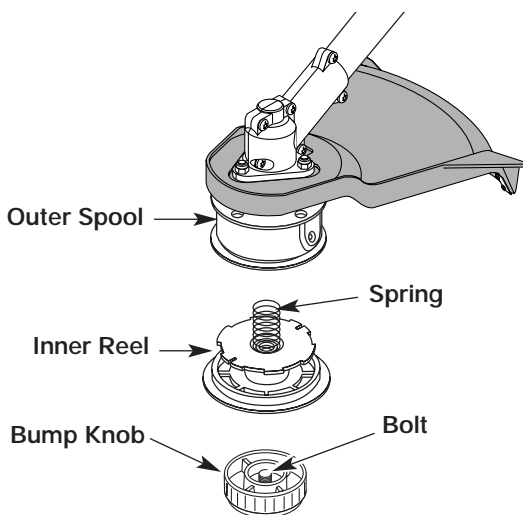

Fig. 12
1. Hold the outer spool with one hand and unscrew the Bump Knob clockwise (Fig. 12). Inspect the bolt inside the bump knob to make sure it moves freely. Replace the bump knob if damaged.
2. Remove the inner reel from the outer spool (Fig. 12).
3. Remove spring from the inner reel (Fig. 12).
1. Hold the outer spool with one hand and unscrew the bump knob clockwise (Fig. 12). Inspect the bolt inside the bump knob to make sure it moves freely. Replace the bump knob if damaged.
2. Remove the old inner reel from the outer spool (Fig. 12).
3. Remove the spring from the old inner reel (Fig. 12).